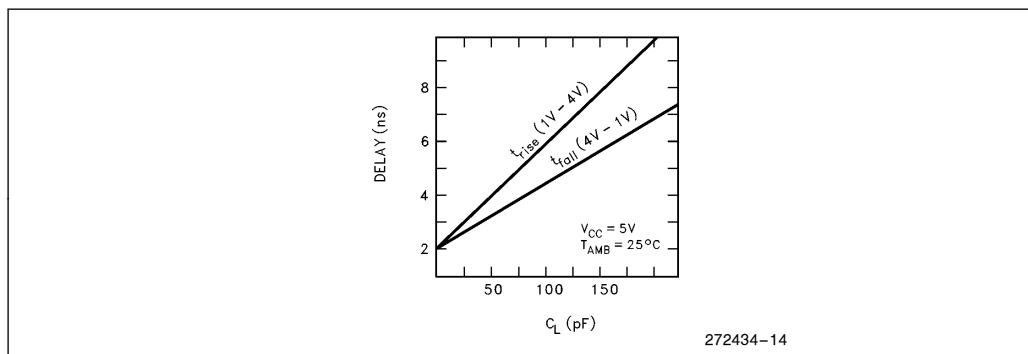

Figure 15. Typical Rise and Fall Variations versus Load Capacitance
5. Specified for a 50 pF load, see Figure 15 for rise and fall times outside 50 pF.
6. See Figure 15 for rise and fall times.